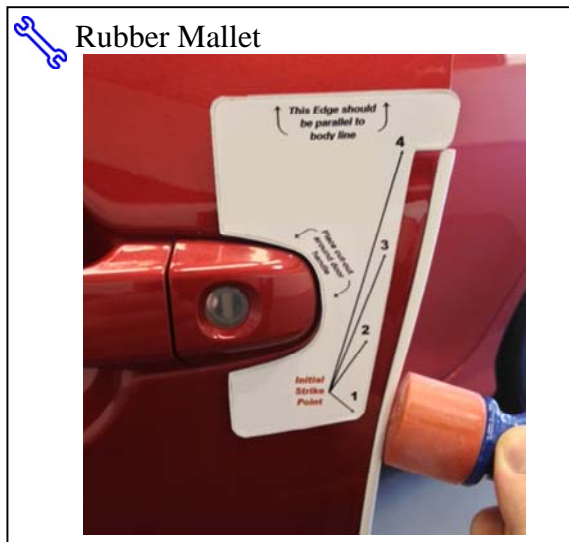

Fig. 1-6
- (4) Mallet blows need to be delivered squarely (broad face contact opposed to point contact) to the spine of the molding, and perpendicular to the door edge as shown. While holding DEG in proper alignment with one hand, use **soft side of the rubber mallet** to begin tapping the channel onto the door edge, starting at Striking Point #1 on the template (~3” inches below the top of the DEG). Ensure the channel is fully engaged onto the door edge before proceeding to the next step (Fig. 1-6).